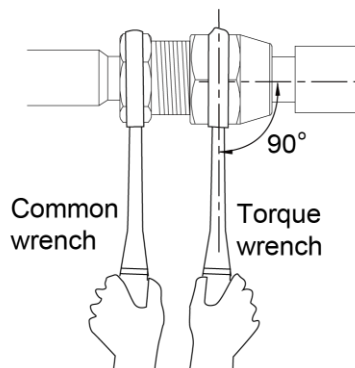

Fig.13
- (3) Use torque wrench to twist on the flare nut tightly until the wrench gives out a click sound. (Hold the handle of wrench and make it at right angle to the pipe, as in Fig.13.)
- (4) Use sponge to wrap the un-insulated connection pipe and joint. Then tie the sponge tightly with plastic tape.
- (5) Connection pipe should be supported by a bearer rather than the unit.
- (6) The bending angle of connection pipe should not be too small; otherwise the pipe might be cracked. Please use a pipe bender to bend the pipe.
- (7) When connecting indoor unit with connection pipe, do not pull the big and small joints of indoor unit with force in case the capillary tube or other tubes be cracked and cause leakage.